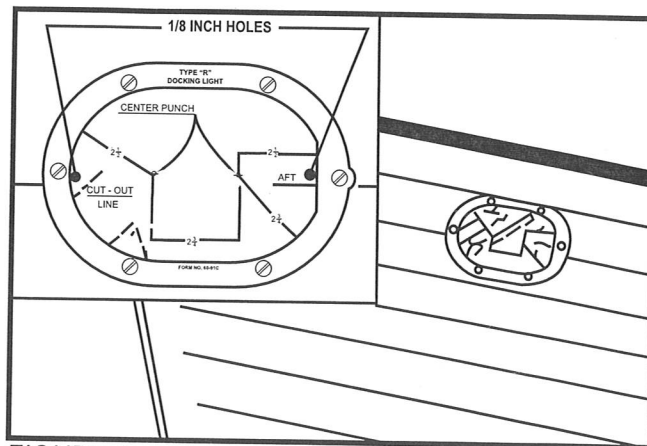

FIGURE 1
- 1.3 Tape the templates (see Figure 1) on the horizontal lines.